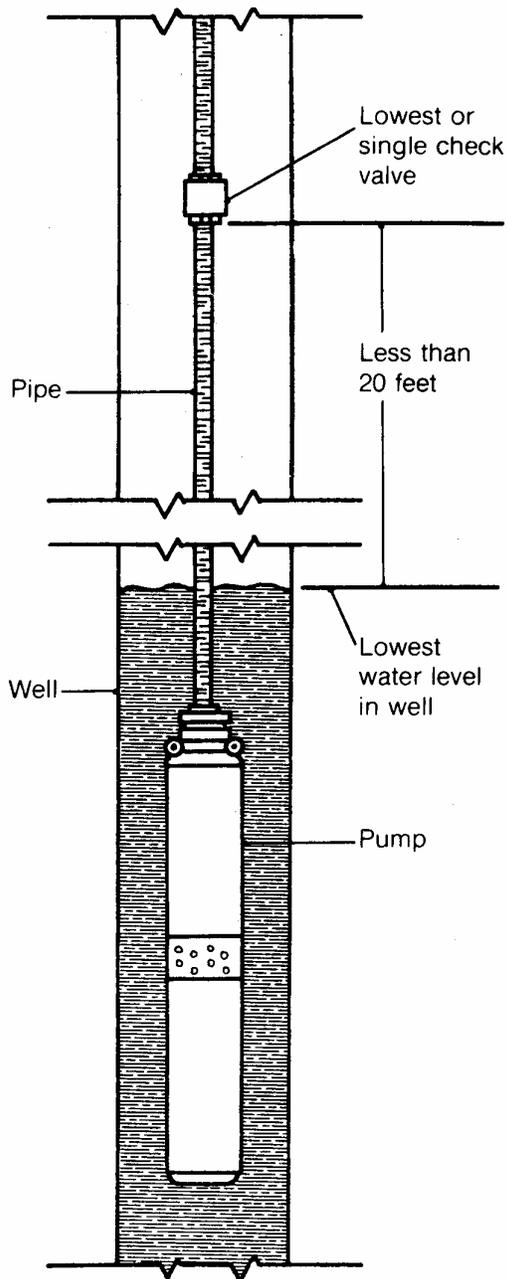
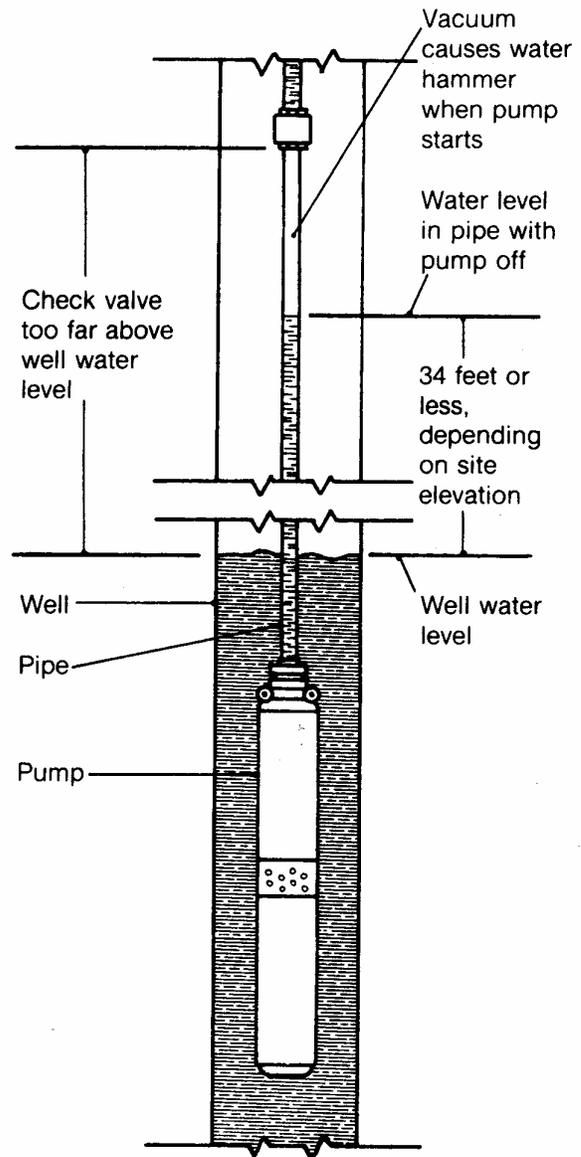

FIGURE 2. Correct Check Valve Location
FIGURE 3. Incorrect Check Valve Location Causes Water Hammer
- A single check valve, or the lowest valve if more than one is used, should be installed so it can never be more than 25 feet above the water level in the well (See Figure 2). If the valve is set too high, when the pump turns off the weight of water in the pipe below the valve will cause it to drain down to 34 feet or less above the well water level. Space in the pipe between the valve and the water below it will become a vacuum (See Figure 3). When the pump starts, the water in the pipe will rapidly close this vacuum and strike the check valve and stationary water column above it, creating a “water hammer” impact that can damage valves, pipe, pup and motor.